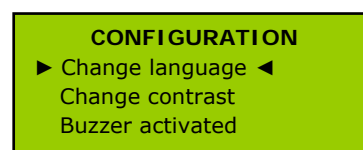

Figure 21
- "Change Language" allows you to select the language in which the menu options are shown. To select this, place the cursors beside this option as shown in Figure 21 and press [ENTER].